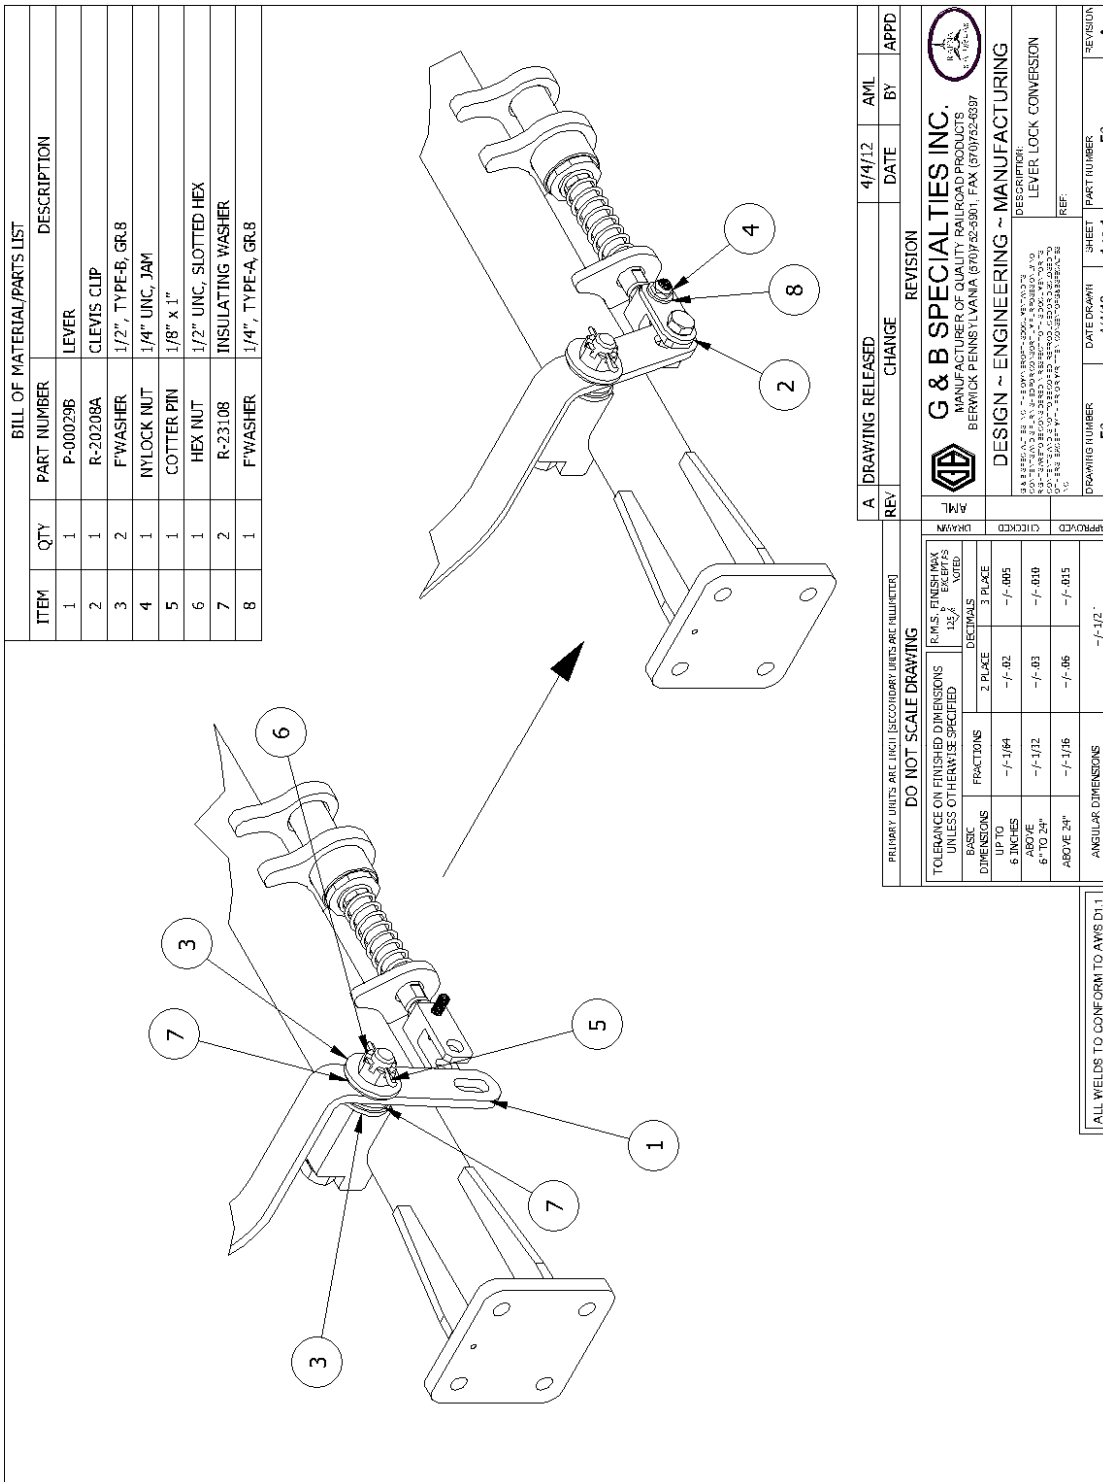

Figure 6
12. Assemble the lever to the pivot block as shown. (The lever will need to be bent to suit during installation) (Figure 6)
13. Assemble the lever to the clevis on the pull rod as shown (Figure 6)